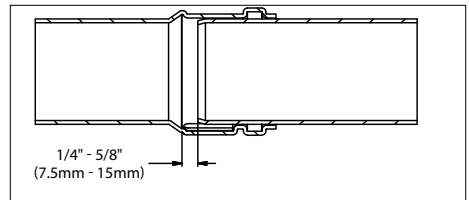

Figure 6
9. Because of the elongation at high exhaust temperatures the pipes must be inserted and joined according to **Figure 6**. The allowed length of elongation must be between 1/4" and 5/8" (7.5 - 15 mm) per joint.